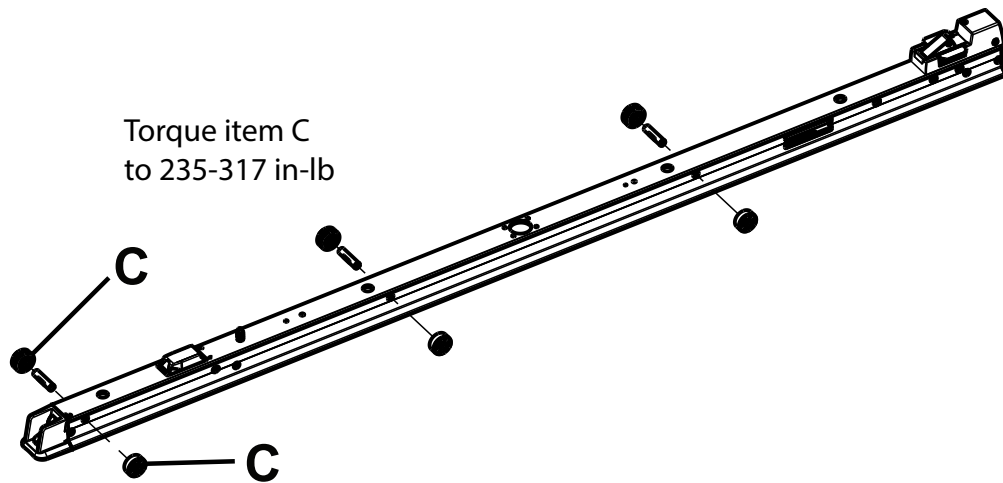

Figure 48 – Remove the flat roller assembly and V-guide roller assembly
7. Using a 1/4" hex wrench, remove the two screws (C) that secure the flat roller assembly and the V-guide roller assembly on the foot end of the anchor assembly (Figure 48). Save all parts.